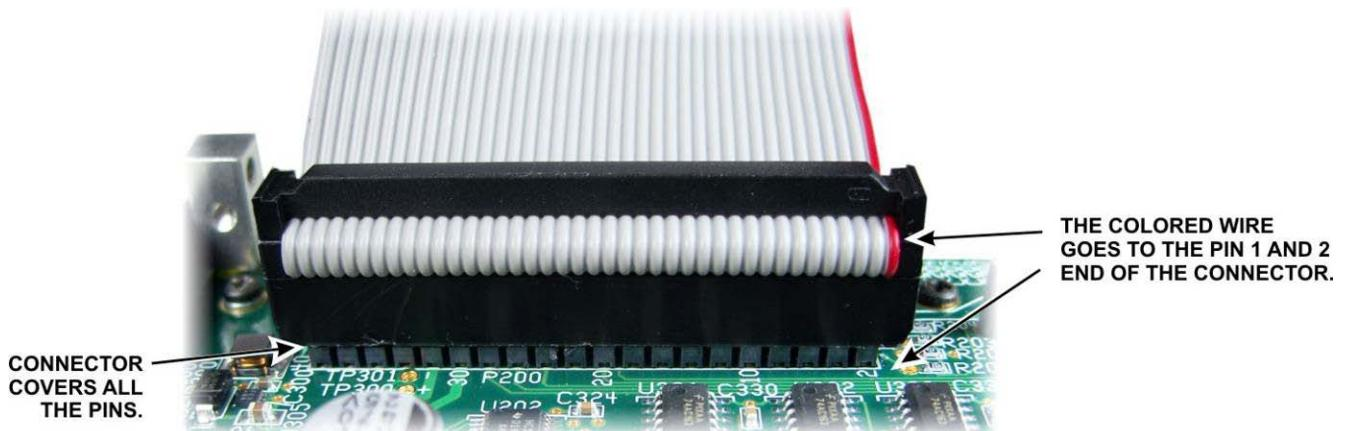

Figure 21. Mating the 40-pin Connectors.
- Plug the ribbon cable into P200 on the display board with the colored edge of the cable at Pin 1 (the bottom of the connector when the board is oriented normally). Be sure the connectors are properly aligned so that all pins engage and they are fully mated as shown in Figure 21). One pin has been removed from the connector on the pc board and the corresponding hole in the cable connector is plugged to help ensure they are properly aligned end-to-end but check carefully to ensure the connector is mated to both rows of pins.
- Plug the free end of the ribbon cable into P504 on the I/O board or, if the P3SVGA board is installed, into P102 on the P3SVGA board. Be sure the red edge is at the Pin 1 end of the connector (the end nearest the bottom). To avoid stressing the board, support it with your fingers while mating the connector by placing your fingers on the side of the board opposite the connector and squeezing the connector in place with your thumbs. Be sure the connectors are properly aligned so that all pins engage the cable connector just as you did on the display board (see Figure 21).